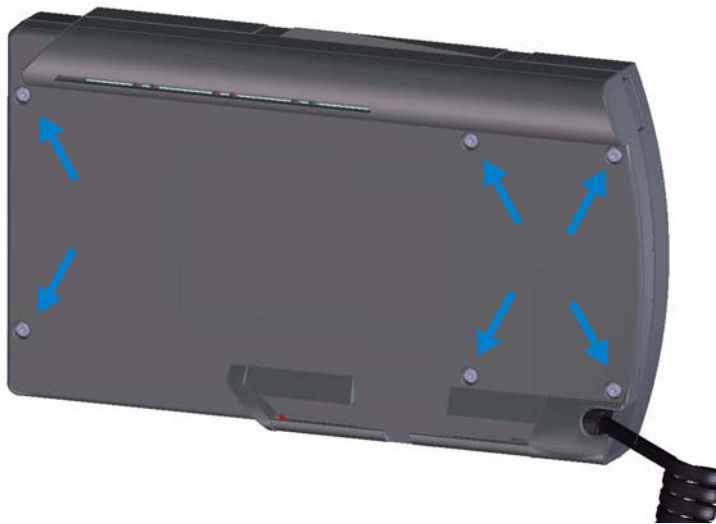

Figure 110 Rear Panel - location of screws
- 1 Place the Instant Pilot face down on a bench (as shown in Figure 110).